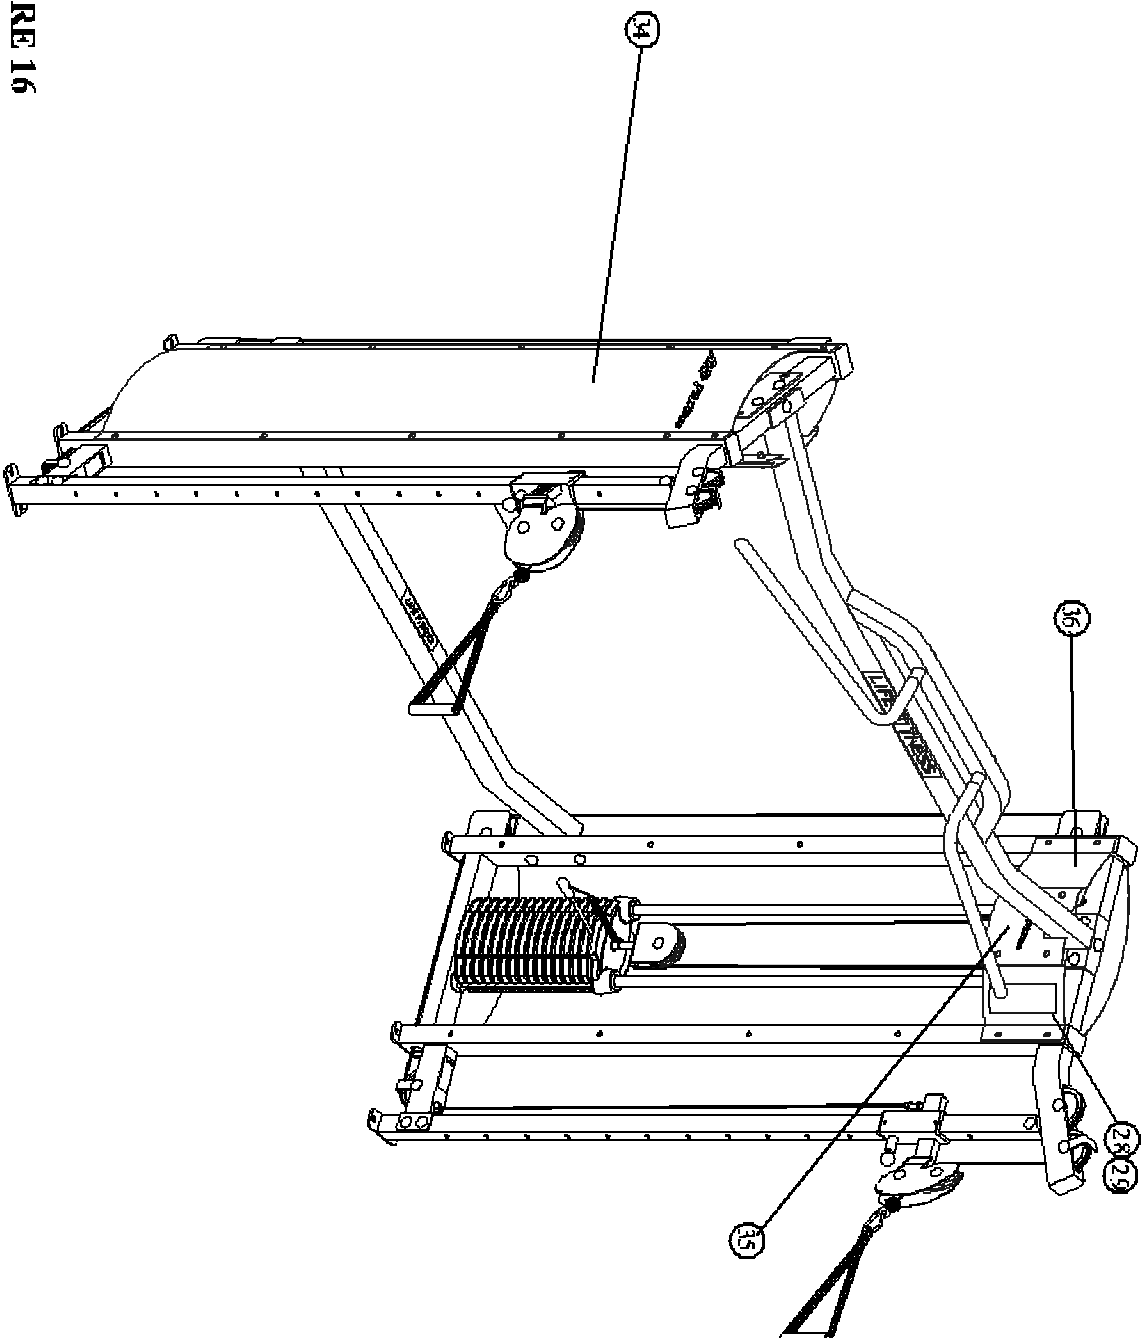

FIGURE 16
- Assemble the PLACARD LABEL (28) or the FOREIGN LANGUAGE PLACARD LABEL (29) to the both the SHROULDS as shown in FIGURE 16.